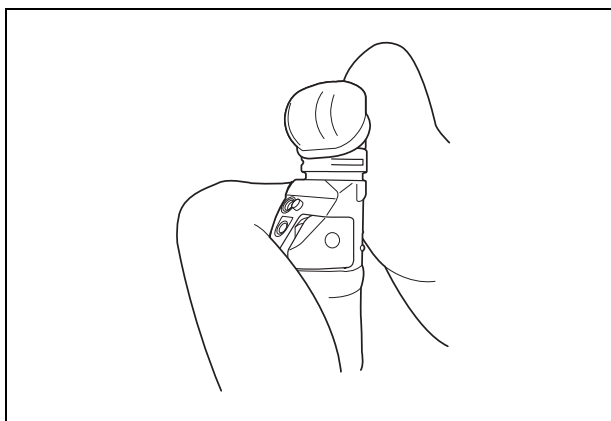

Figure 4.6
2. Roll up the rear end of the balloon with your fingers (see Figure 4.6).